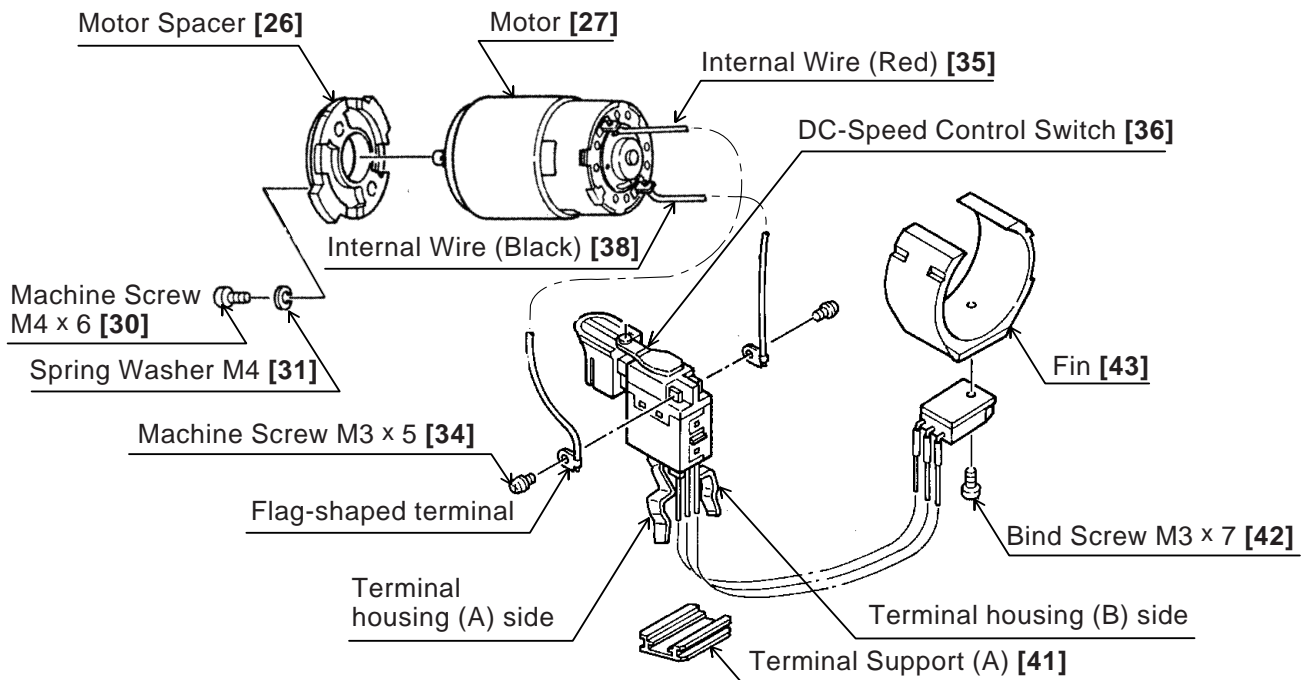

Fig. 2
- ① Disconnect the Internal Wires [35] and [38] of the Motor [27] with a soldering iron.
- ② With one Bind Screw M3 x 7 [42] removed, the FET (Field Effect Transistor) of the DC-Speed Control Switch [36] and the Fin [43] can be taken apart.
- ③ Remove the two Machine Screws M4 x 6 [30], and take the Motor [27] and the Motor Spacer [26] apart. When removing the Internal Wires [35] and [38] of the Motor [27] from the DC-Speed Control Switch [36], be sure to remove the two Machine Screws M3 x 5 [34] securing the flag-shaped terminal. (See Fig. 2.)
(a) Be sure to perform wiring connections as indicated in the wiring diagram. (See Fig. 2.)